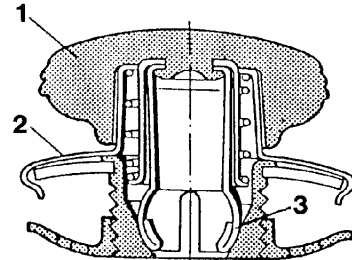

Figure 1
Tenax Snaps are used to secure the emergency folding top. The upper part of the snap (Figure 1) consists of the operating button (1) and the housing (2) with three tensioning springs (3).